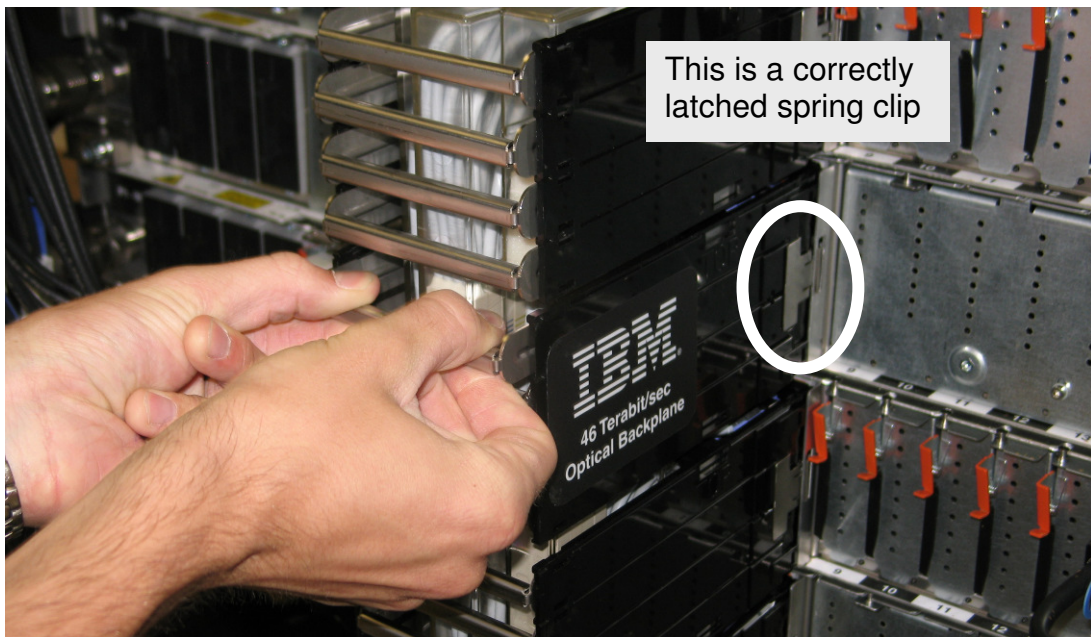

Figure 14 Optical Backplane Enclosure
STEP 25 Pull out each of the 4 actuation handles until the connectors are unplugged. It is not necessary to pull the handle out more than 1/2 inch. Figure 14 shows a method for pulling out the handles. The photo also shows the spring clips on the right side of the OBE, holding the 4 sections of the OBE to the CEC drawers.